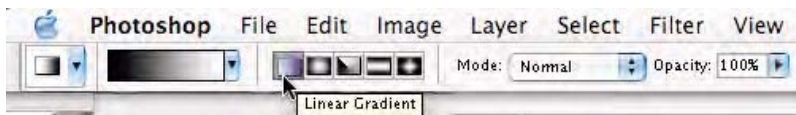

Fig. 9-12-4 Click the **Linear Gradient** icon as seen here.
4. In the option bar, ensure the gradient type is set to **Linear Gradient** (the first icon in the group). Ensure the **Mode** pop-up menu is set to **Normal** and **Opacity** is set to **100%** as seen in Fig. 9-12-4.
4. Click the title bar of the document you made or the option bar to dismiss the gradient palette. In the option bar, ensure the gradient type is set to **Linear** (the first icon in the group) and the **Mode** pop-up menu is set to **Normal** and **Opacity** is set to **100%** as seen in Fig. 9-12-4.